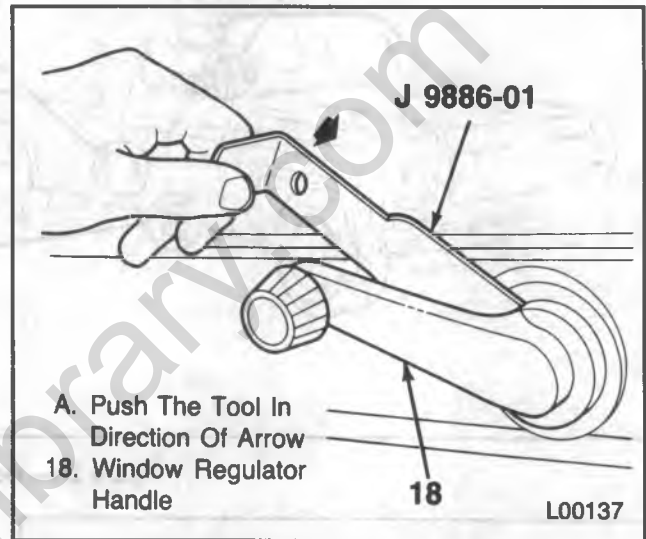

Figure 6 — Handle Clip Remover
Remove or Disconnect (Figures 6 through 9)
1. Window regulator handle using J 9886-01 (figures 6 and 7).
3. Arm rest to arm rest bracket screws (77).
6. Strap assembly screws (24) (if equipped).
8. Door trim panel to door screws (22).